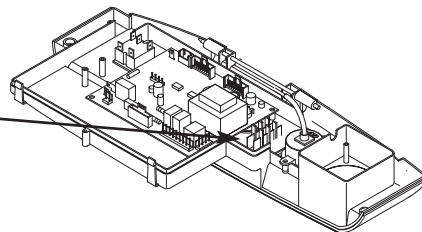

Fig. 3
2. Undo the screws securing the cover and release the cover retaining barbs from their slots. Disengage the rear of the cover from the fascia hinge pin and lift the cover away (Fig. 3).